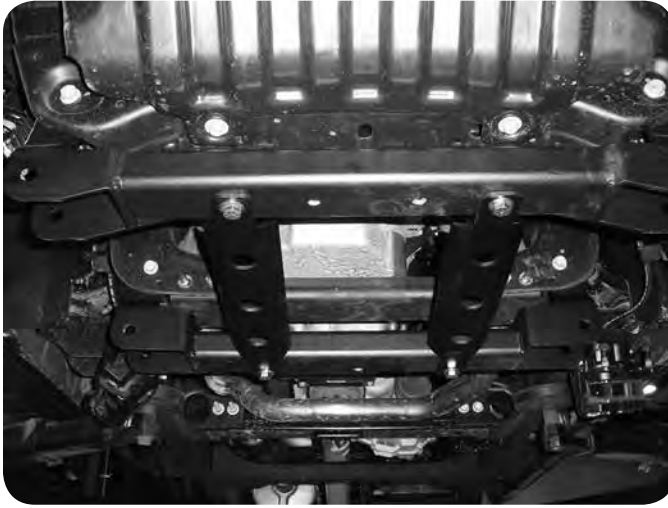

Figure 12
20. Attach the provided crossmember support struts to the front and rear crossmembers with 1/2" x 1-1/4" bolts and 1/2" SAE washers in the outer threaded holes in the front crossmember and 1/2" x 3" bolts, nuts and washer through the holes in the rear crossmember. The ends of the support strut are bent to set flush with the bottoms of the crossmembers **Figure 12**. There will be one thread hole left in the center of the front crossmember. Install the remaining 1/2" bolt and washer in this hole. Use Loctite on the bolts. Leave hardware loose.